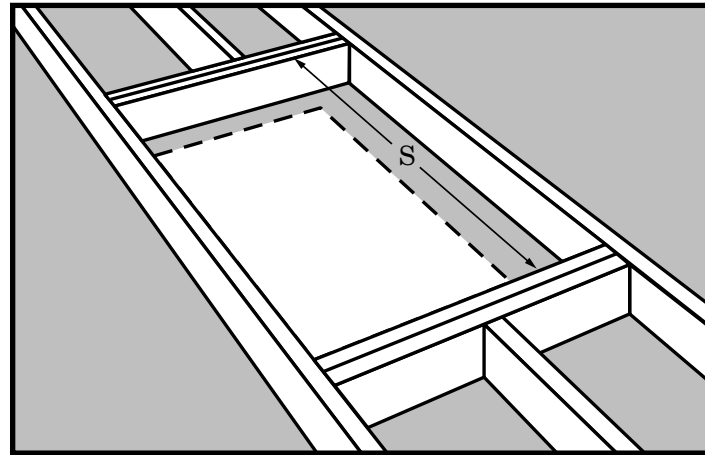

Figure 20
- STEP 1.** Measure the stringer length “S” between the headers (Figure 20).
- STEP 3.** If the ceiling joist does not provide one side of the frame, then cut a second stringer the same length as the first one. Note that only one stringer is needed in Figure 20 because the ceiling joist provides one side of the frame.